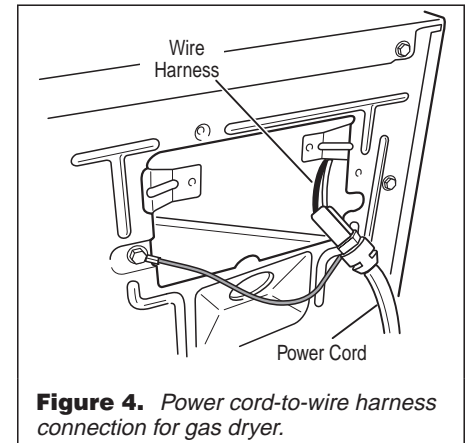
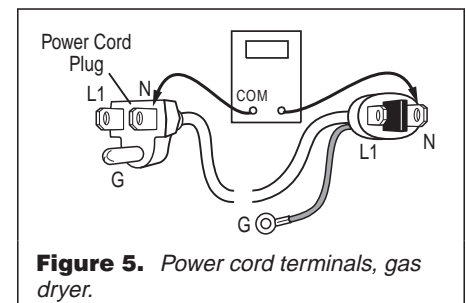

Figure 4. Power cord-to-wire harness connection for gas dryer.
Figure 5. Power cord terminals, gas dryer.
1. After removing the cover plate, check that the power cord is firmly connected to the dryer's wire harness. See figure 4.
3. With an ohmmeter, check for continuity between the neutral (N) terminal of the plug and P1-2 (white wire) on the machine control board. The left-hand side of figure 5 shows the position of the neutral terminal (N) on the power cord's plug.
- ➔ If there is no continuity, disconnect the white wire of the harness from the power cord at the location illustrated in figure 4. Test the continuity of the power cord's neutral wire as illustrated in Figure 5. If an open circuit is found, replace the power cord. Otherwise, go to step 4.
- ➔ If there is no continuity, check the continuity of the power cord in a similar way to that illustrated in figure 5, but for power cord's L1 wire.